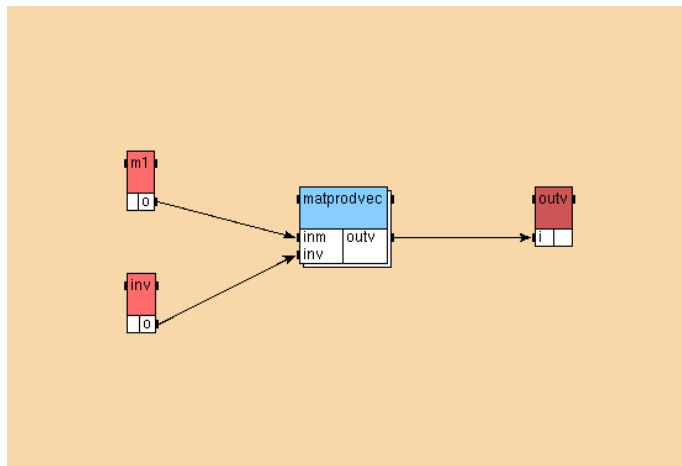

Figure 4.9: AlgorithmMain3 of the **Example 4**
- then create dependences to obtain an algorithm (*cf.* figure 4.9).